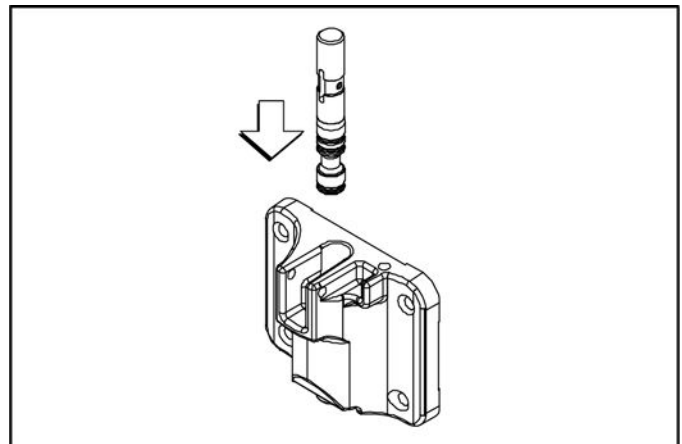

Figure 6-28
12. Insert the draw valve from the top, with the draw handle slot facing forward. (See Figure 6-28.)